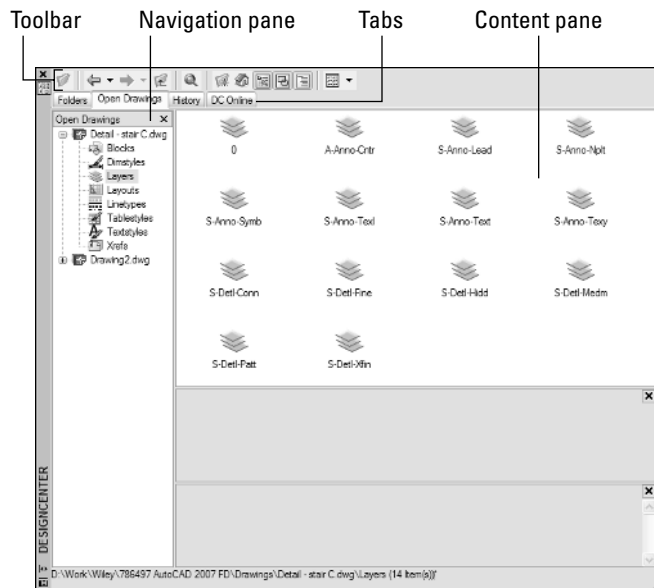

Figure 5-10:
The DesignCenter palette (shown in Figure 5-10) consists of a toolbar at the top, a set of tabs below that, a navigation pane on the left, and a content pane on the right. The navigation pane displays a tree view with drawing files and the symbol tables contained in each drawing. The content pane usually displays the contents of the drawing or symbol table.
5. If DesignCenter doesn't display the symbol tables indented underneath the source drawing (the one you opened in Step 2), as shown in Figure 5-10, click the plus sign next to the drawing's name to display them.